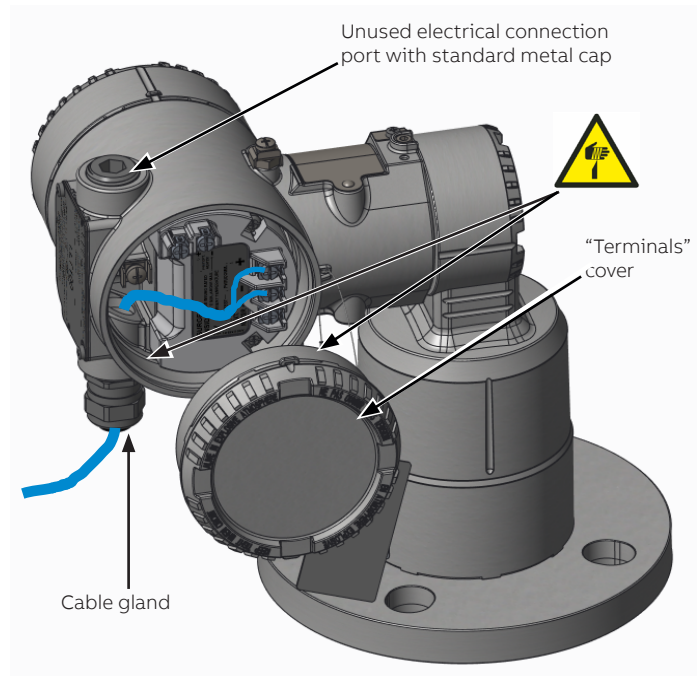

Figure 3 Accessing the terminals inside the LLT100
1. Remove the temporary plastic cap from one of the two electrical connection ports (see Figure 3).
2. Remove the housing cover on the "terminals" side (see Figure 3). Refer to the indications on the instrument name plate.